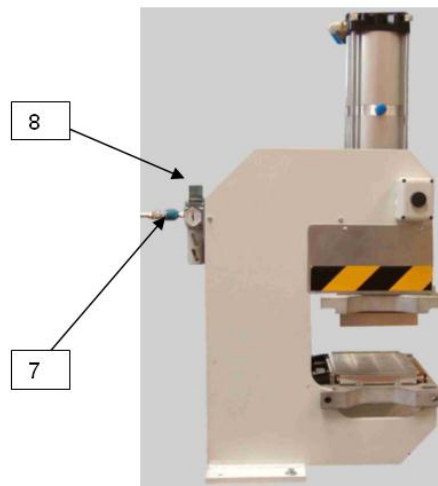

Fig. 4 – view PF-150CW
- Connect the pneumatic supply hoses to the pressure regulator on the PF-150CW pneumatic unit where the PF-150CW press is installed (see figure 4)